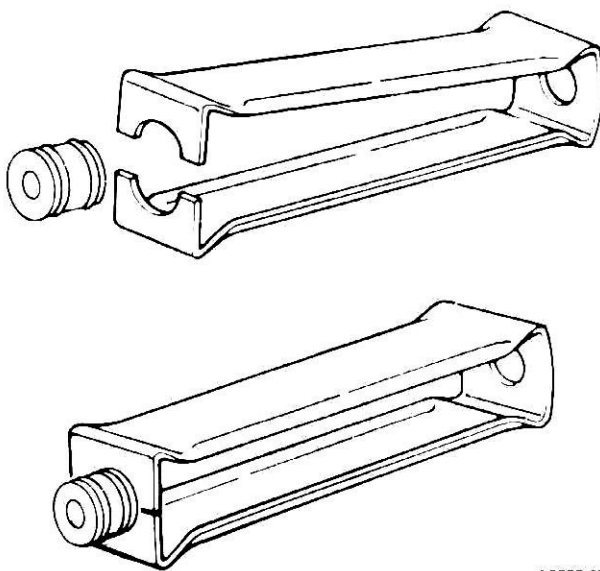
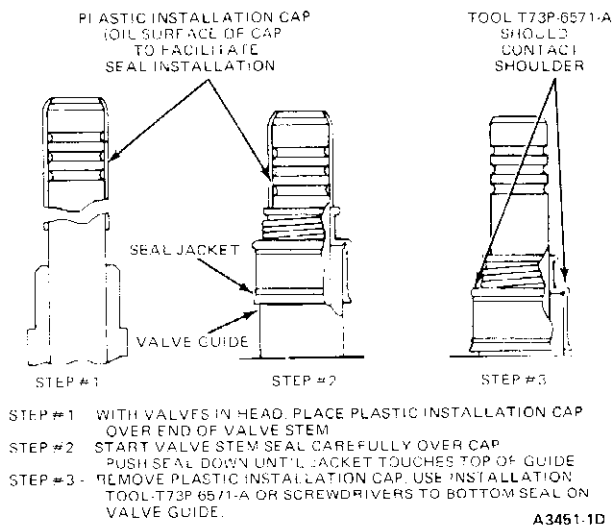

FIG. 13 Valve Stem Seal Installation Tool
FIG. 14 Valve Stem Seal Installation
1. Install a new valve stem seal using a plastic installation cap. Use the tool shown in Fig. 13 and the procedure given in Fig. 14. Install the valve spring, retainer and locks. Turn off the air and remove the air line and adapter.